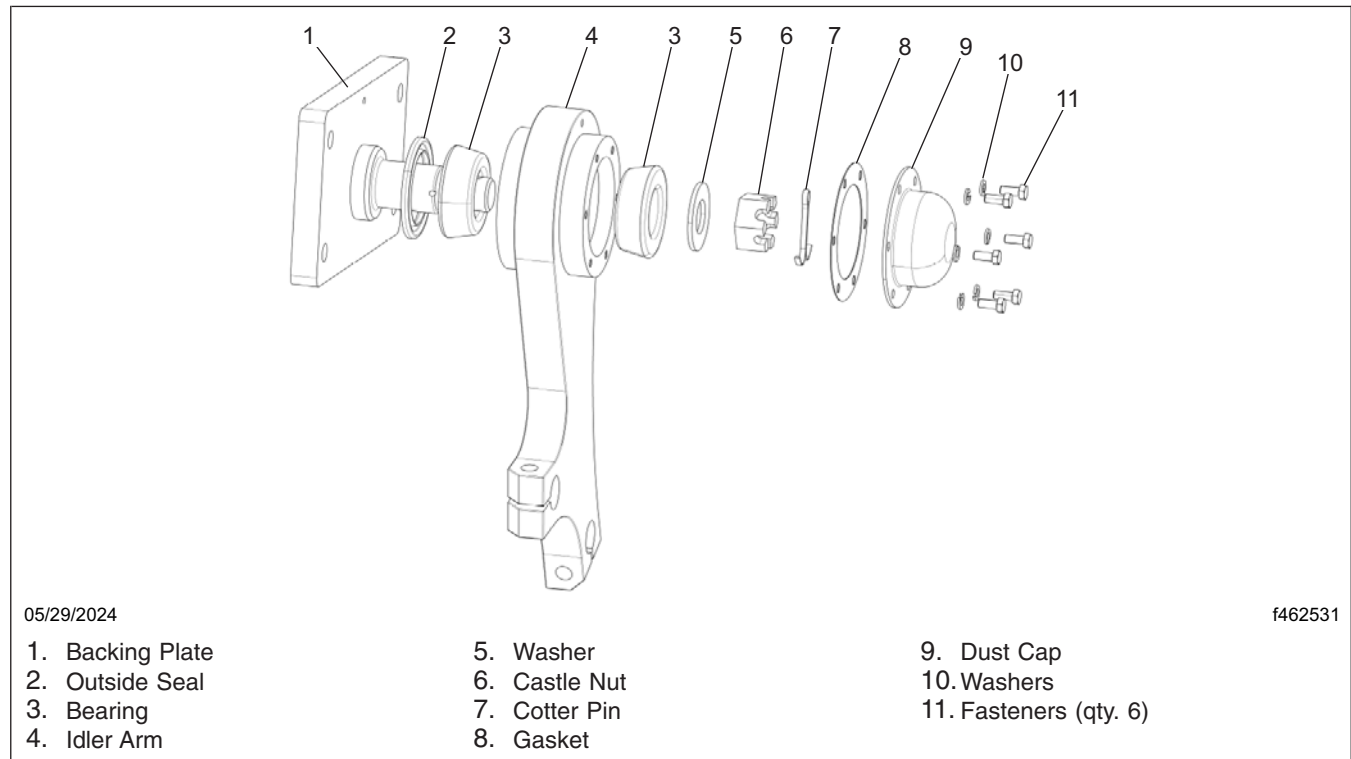

Fig. 4, Idler Arm Assembly
6. Remove the idler arm and the bracket assembly, and place it on the bench. See Fig. 4.
18. Align the new idler arm and the bracket to the pin hole located at 12 o'clock position. See Fig. 4.
See **Fig. 4**.